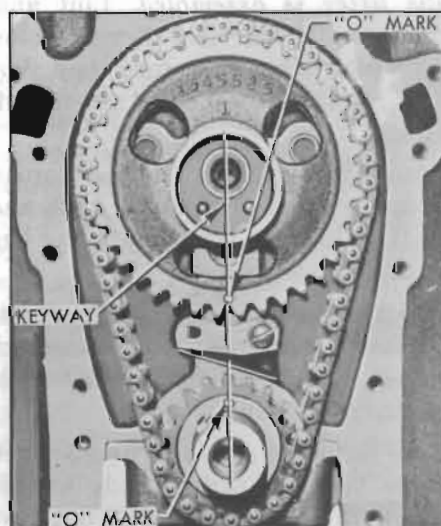

Figure 2-28—Timing Chain and Sprockets Properly Installed
4. If there has been doubt about the valve timing, turn crankshaft until the camshaft sprocket keyway is straight down toward the crankshaft and the "0" timing marks on both sprockets are toward each other and in line with shaft centers. See figure 2-28.
7. When ready to install timing chain, turn crankshaft until Nos. 1 and 4 pistons are on top dead center. Turn camshaft so that the sprocket key points straight down toward crankshaft. See figure 2-28.
8. Place timing chain over the camshaft and crankshaft sprockets so that the "0" marks stamped on front faces of sprockets are nearest each other and aligned between the sprocket hubs. Install sprockets with chain on the two shafts. See figure 2-28.